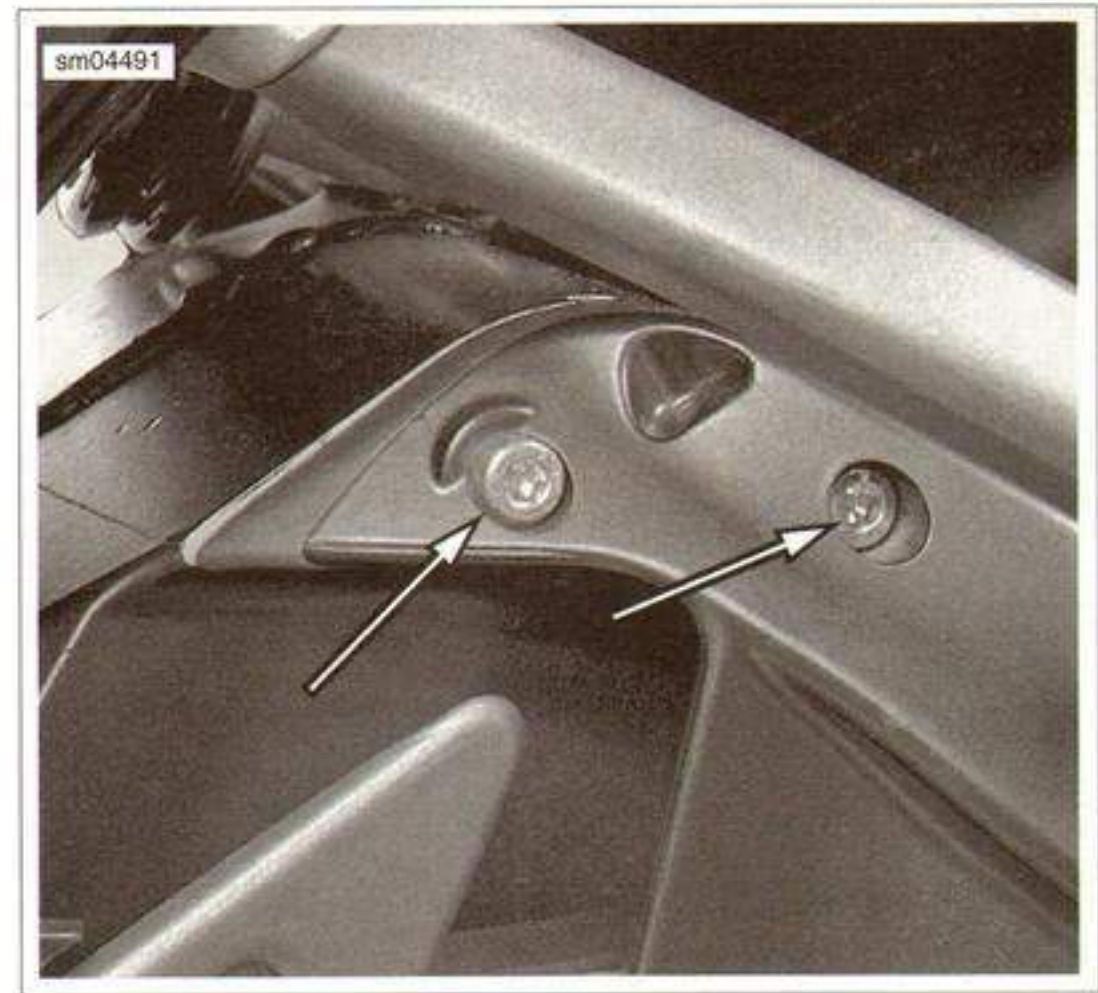

Figure 2-108. Swingarm Brace Fasteners
4. See Figure 2-108. Remove swingarm brace fasteners and brace.